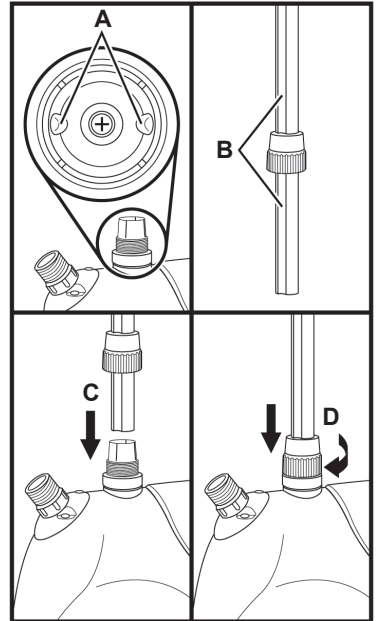

FIGURE 3
2. Look down inside Pole Base, and locate two guide ridges (FIGURE 3-A). Align two guide grooves on Telescopic Pole (FIGURE 3-B) with guide ridges inside Pole Base.
3. With guide grooves aligned with guide ridges, insert SECTION 4 of Telescopic Pole into Pole Base (FIGURE 3-C).
4. Slide COUPLING down over Pole Base, then screw clockwise to secure Telescopic Pole in place (FIGURE 3-D). The Telescopic Pole should now be secured to the Pole Base.